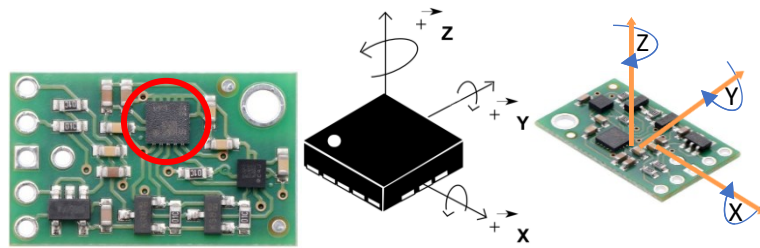

Fig. 10 Direction of the 3 detectable accelerations and the 3 detectable angular rates
A gyroscope is a tool to measure rotational or angular velocity of a body. It does not measure linear velocity or acceleration. In fact, it is designed to eliminate the affects of linear velocity or acceleration on its measurements. The LSM6DS33 MEMS IC from ST®, provides a 3-axis gyroscope, as shown in Fig.10.
While the sensor is lying flat, parallel to the ground, the Gyroscopes readings in the X and Y directions, as shown in Fig. 10, aid the accelerometer in calculating the Roll and Pitch angles of the vehicle, not only as absolute values provided by the accelerometer, but also as the velocity of change in these readings. The Gyroscopes reading in the Z direction aid the Magnetometer in calculating the Yaw angle of the vehicle, not only as an absolute value provided by the Magnetometer, but also as the velocity of change in this reading.
- a. While the sensor is lying flat, parallel to the group, rotate the module in the Z direction, i.e., the Yaw angle with respect to Fig. 10, in a constant speed back and forth. Note and gyroscope record output on the Z direction as you move the module will change significantly between +ve values and -ve values as you move the rotate the module back and forth. The reading output will be low as soon as you stop rotating the module.
- b. Repeat step a, while starting from the sensor parallel to the group, rotate the module in the X direction, i.e., the Roll angle with respect to Fig. 10, in a constant speed.
- c. Repeat step a, while starting from the sensor parallel to the group, rotate the module in the Y direction, i.e., the Pitch angle with respect to Fig. 10, in a constant speed.